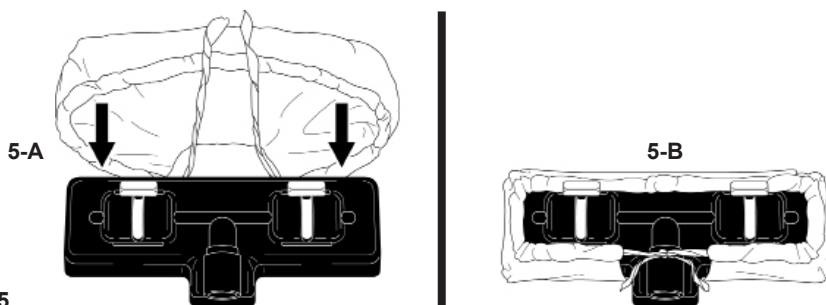

FIGURE 5
1. Wrap Cloth Cover around bottom of Utility Head, so that string-ties are positioned around rear receptacle (FIGURE 5-A).
2. Tie string-ties together to secure Cloth Cover to Utility Head (FIGURE 5-B).